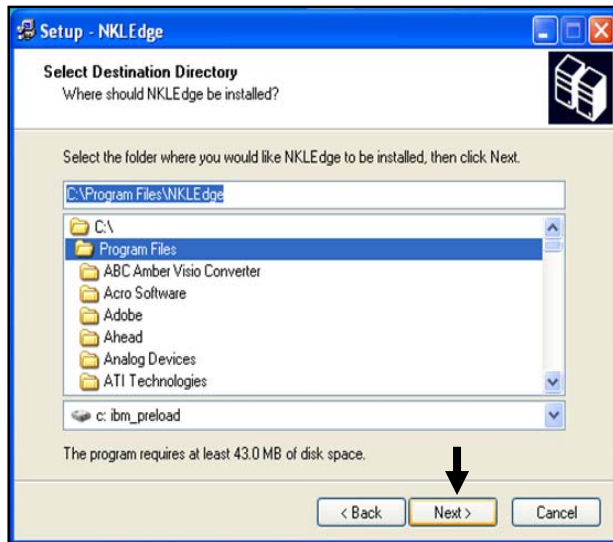

Fig. 3.6
- 6) The next screen asks you to specify the destination directory where all the program files will be stored. **It is highly recommended that you keep the default directory path (C:\Program Files\NKLEdge).** If you do change the destination path, you must make additional changes to the Edge program after the install has been completed. Select **Next** after the destination directory is set (Fig. 3.6). Select **Yes** when asked if you want to create the directory.